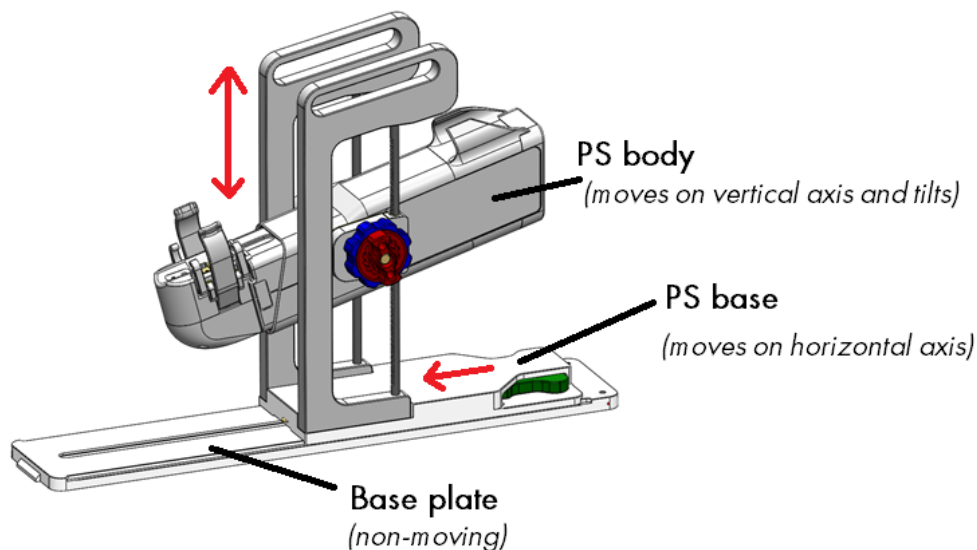

Figure 23: Adjusting the Positioning System
3. **MRI Technologist:** Manually move the PS into position so that the UA gripper aligns with the natural angle of the UA in the patient. Manually adjust the base of the PS forward and backward and up and down, and tilt the linear axis of the PS up and down (Figure 23).
NOTE: The PS adjustment knobs and levers are not coloured as in *Figure 23*, but are coloured here to help with these instructions.